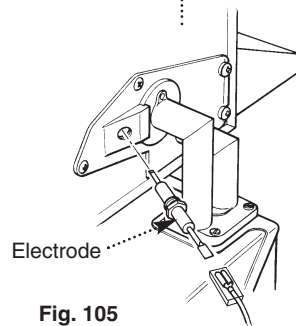

Fig. 105
1. Disconnect the spark electrode lead at the electrode (Fig. 105).
2. Unscrew the electrode from the manifold and withdraw the electrode (Fig. 105).